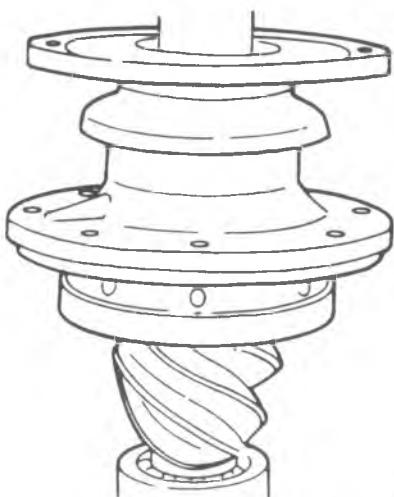
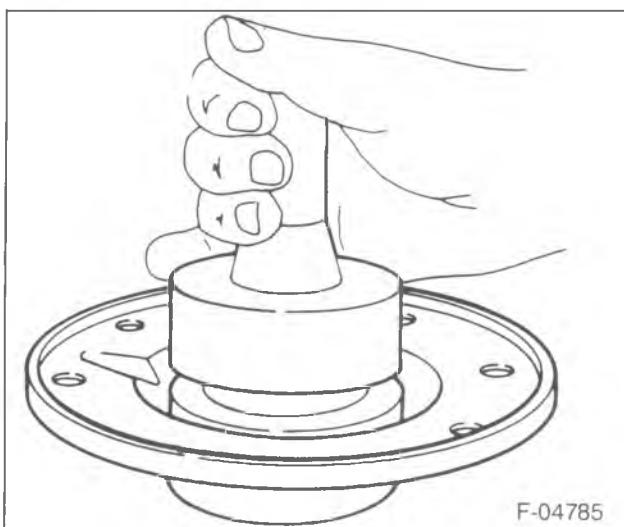

Figure 16—Installing the Pinion Flange
Figure 19—Installing the Seal
- 7. Pinion flange (60) to the pinion (figure 16).
- 9. Pinion oil seal (58) using J 3154-04 (figure 19).
- 10. Pinion flange deflector (59).
- 11. Pinion flange (60) to the pinion (figure 16).